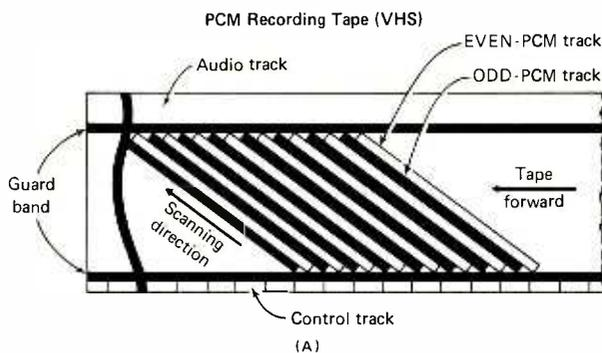

Figure 3. The NTSC TV signal is recorded on a VHS format video cassette recorder; tracks are the same as those used in video recording.
A) **Figure 3. Response plots, as in Figure 2. However, dimension controls are both set to mid-point ("5"). Separation is set to 5 (A), and to 10 (B).** B)